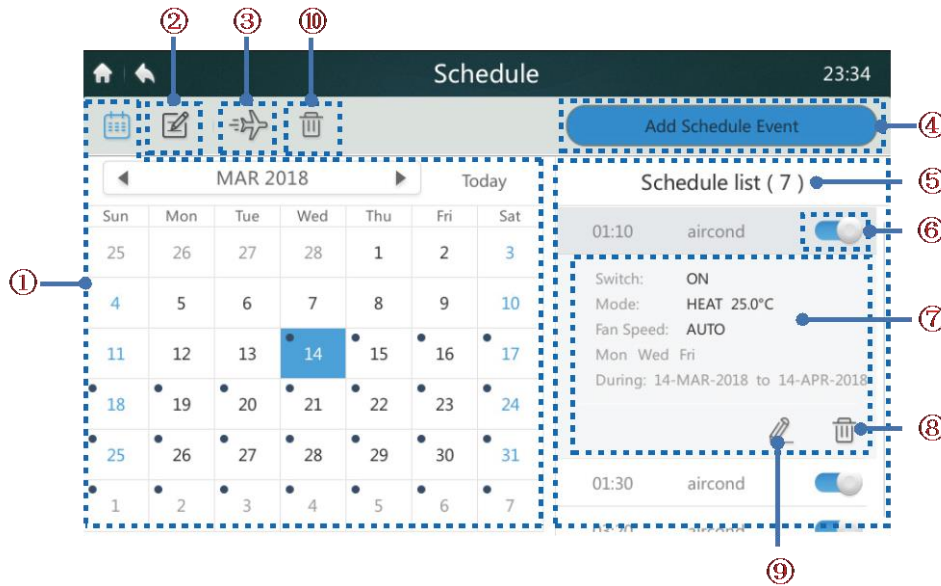

Figure 19 Homepage of Schedule page
1. Tap the add schedule button marked "4" in Figure 19 to enter the interface, as shown in Figure 20.
1. Tap the "➔" button marked "3" in Figure 19 to enter holiday settings, as shown below. Schedules are not implemented during the holiday period.
- Tap the "🗑️" button marked "10" in Figure 19 to delete all the schedules settings. The following prompt appears, as shown below. Tap "Delete" to delete the schedule or tap "Cancel" to cancel the operation.